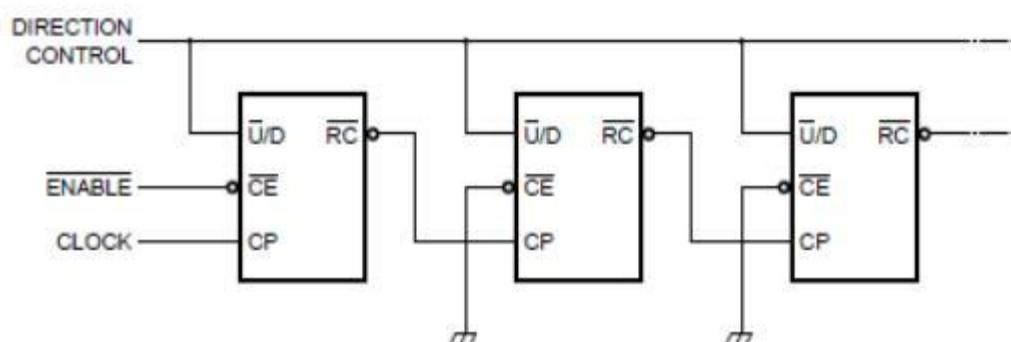
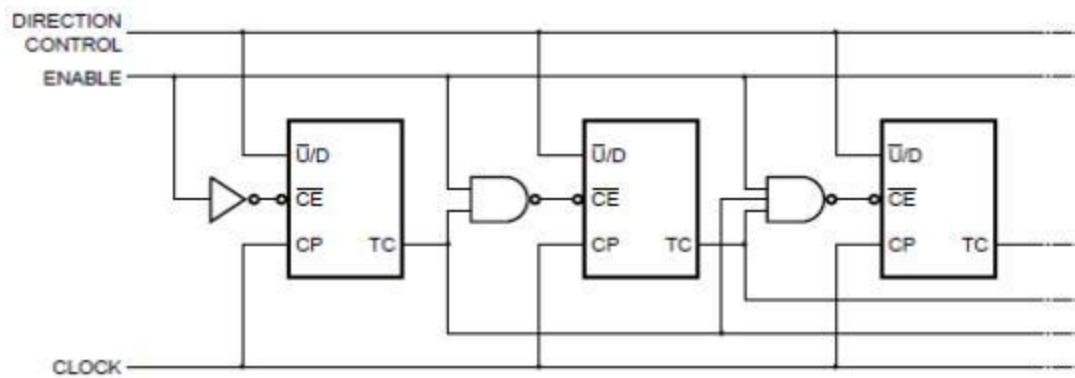

Figure 5. N-stage ripple counter using ripple clock
Figure 7. Synchronous n-stage counter with parallel gated carry/borrow
Counting is inhibited by a HIGH level on the count enable (\bar{CE}) input. When \bar{CE} is LOW internal state changes are initiated synchronously by the LOW-to-HIGH transition of the clock input. The up/down (\bar{U}/D) input signal determines the direction of counting as indicated in the function table. The \bar{CE} input may go LOW when the clock is in either state, however, the LOW-to-HIGH \bar{CE} transition must occur only when the clock is HIGH. Also, the \bar{U}/D input should be changed only when either \bar{CE} or CP is HIGH. Overflow/underflow indications are provided by two types of outputs, the terminal count (TC) and ripple clock (\bar{RC}). The TC output is normally LOW and goes HIGH when a circuit reaches zero in the count-down mode or reaches "9" in the count-up-mode. The TC output will remain HIGH until a state change occurs, either by counting or presetting, or until \bar{U}/D is changed. Do not use the TC output as a clock signal because it is subject to decoding spikes. The TC signal is used internally to enable the \bar{RC} output. When TC is HIGH and \bar{CE} is LOW, the \bar{RC} output follows the clock pulse (CP). This feature simplifies the design of multistage counters as shown in Figure 5 and 6.
In Figure 5, each \bar{RC} output is used as the clock input to the next higher stage. It is only necessary to inhibit the first stage to prevent counting in all stages, since a HIGH on CE inhibits the RC output pulse as indicated in the function table. The timing skew between state changes in the first and last stages is represented by the cumulative delay of the clock as it ripples through the preceding stages. This can be a disadvantage of this configuration in some applications.
In Figure 7, the configuration shown avoids ripple delays and their associated restrictions. Combining the TC signals from all the preceding stages forms the \bar{CE} input for a given stage. An enable must be included in each carry gate in order to inhibit counting. The TC output of a given stage is not affected by its own \bar{CE} signal therefore the simple inhibit scheme of Figure 5 and 6 does not apply.